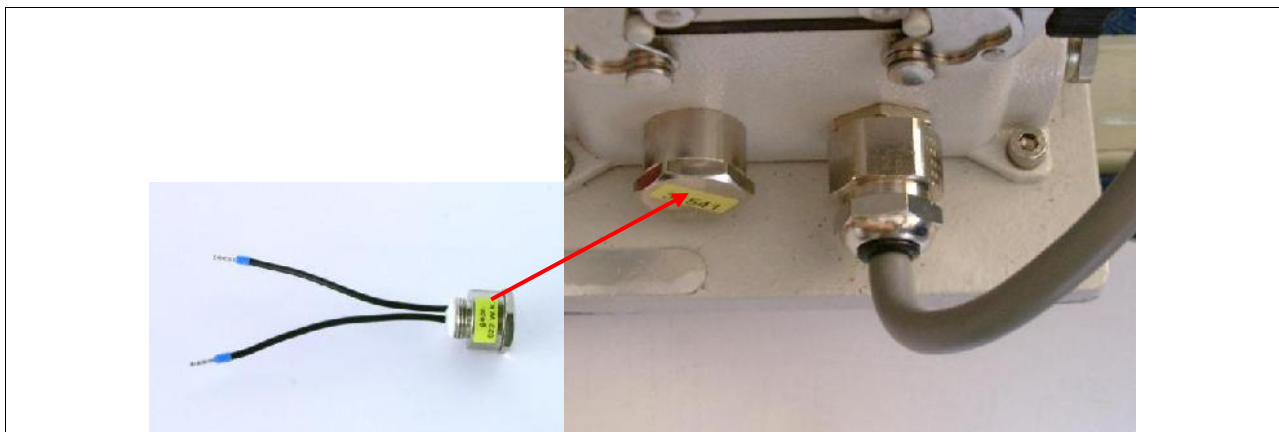

Figure 26: Cable entry and bus-terminator on the bottom side of the VISATRON® device
The connection to the monitoring devices is accomplished via a RS485 two-wire bus. In case of a Remote Indicator II the connection is only a two point link. The bus system at the OMD device must be terminated by the resistor. It is integrated in the terminator (see Figure 26), which is supplied with the monitoring device.
The used communication cable must be twisted pair and shielded. We recommend LAPPKABEL UNITRONIC-FD CP (TP) plus UL-CSA, AWG20. The total bus length is limited to 400 m. The VISATRON® device cable entry (see Figure 26) at the VISATRON® device is designed for cable diameter between 7.5 and 10.0 mm.